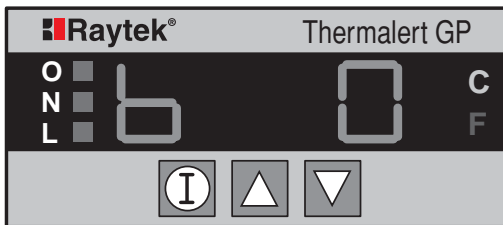

Figure 9: Setpoint Alarm (Trigger) Display
4. Press the  button again and a display similar to Figure 9 appears. If you see a number “1,” it means the Normally Low setpoint will change state when the target temperature or value exceeds the alarm value. If a number “0” displays, the Normally Low setpoint will change state when the target temperature or value is lower than the setpoint alarm value.